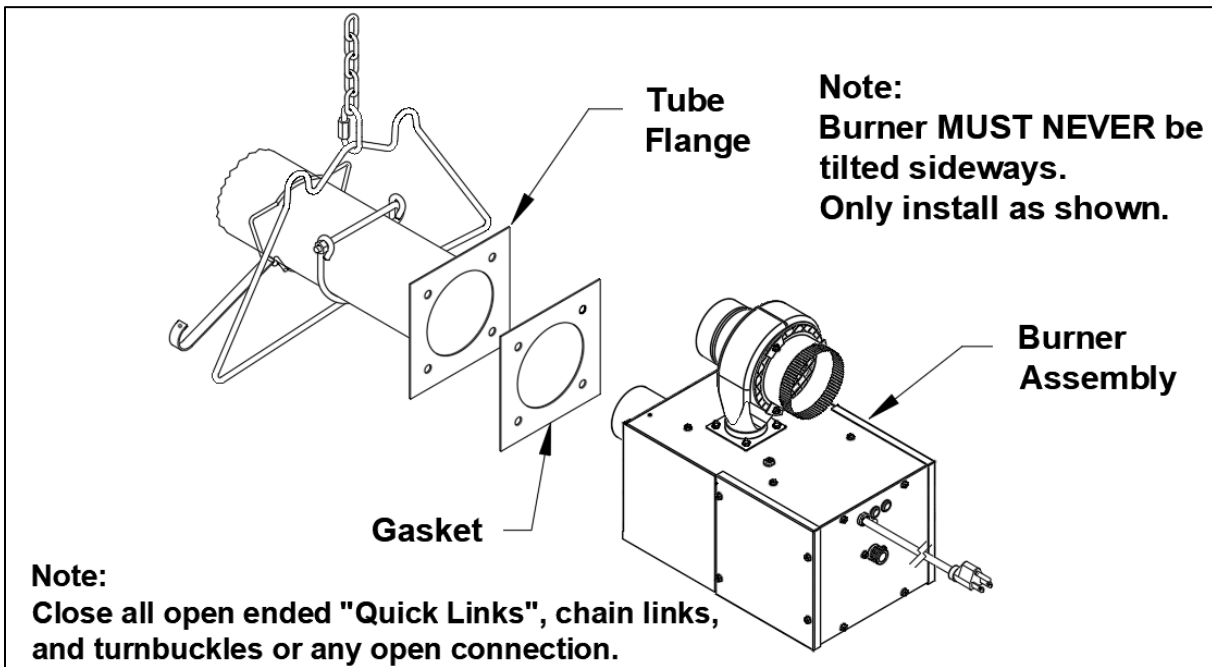

Figure 9: Burner Gasket Installation
- Locate the burner gasket provided, bolt the burner in place on the tube flange with provided hardware. **Burner must never be installed in a tilted position.** The sense electrode of the burner cup should be in the 12 o'clock position (Figure 9)